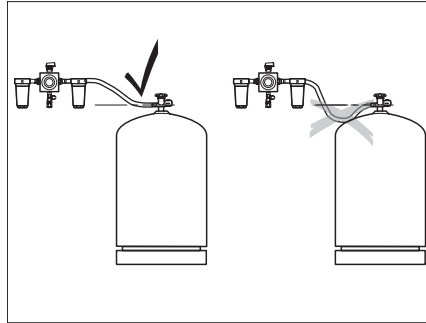

Fig. 212 Routing of the high-pressure hoses
- ▶ When routing the high-pressure hoses ensure that the hoses rise continuously (Fig. 212).